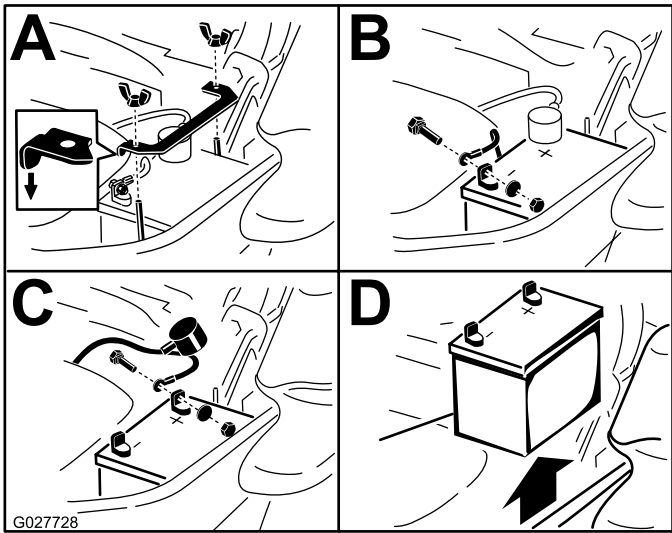

Figure 60
3. Remove the battery as shown in Figure 60.
Note: Position battery in the tray with the terminal posts opposite from the hydraulic tank (Figure 60).